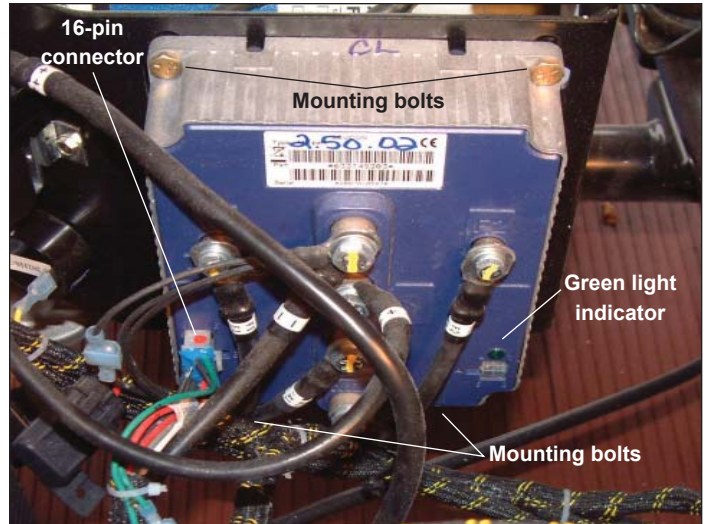

Figure 10-23. Controller Mounting (6 Post Shown)
- Look for the steady green light on the controller. If it is on, the system is OK and ready (Figure 10-23).
- Remove 16 pin controller connector at port B in the lower left hand corner of the controller (Figure 10-23). See *Columbia Service Bulletin 010-06* if the wiring harness or connector are damaged.
- Remove four nuts, washers and bolts securing controller to mounting plate. See Figure 10-23.
- Position new controller to mounting bracket. Secure controller with four bolts, washers and nuts (5). Figure 10-23.